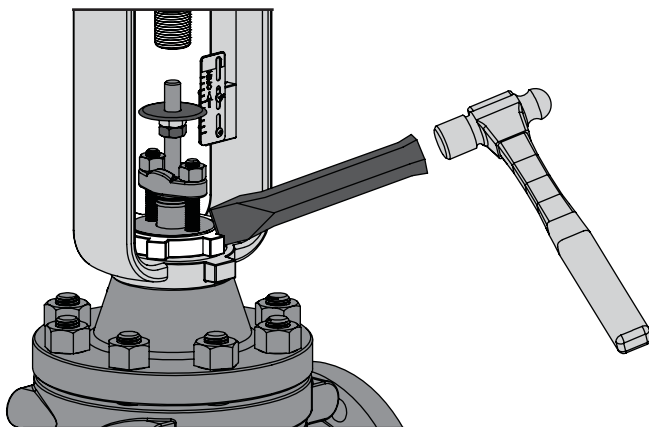

Figure 8 Yoke Locknut Tightening Detail
- Secure the actuator to the valve by tightening the yoke locknut (Key 26) on the valve bonnet. Refer to Figure 8.
- C Secure the actuator for hoisting using the procedures mentioned in the UNPACKING section (Page 4). Using a heavy blunted chisel or metal rod and a hammer, loosen the yoke locknut as shown in Figure 8.